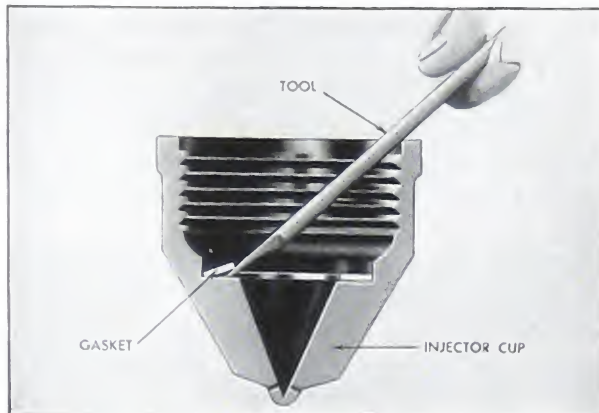

Fig. 6-23. Removing injector cup gasket
6. Always use a new cup gasket when assembling the cup to the injector body. A tool similar to the one shown in Fig. 6-23 will make it possible to remove the old gasket without damage to the body.
9. Place a new gasket in the cup and while holding the injector cup end down, carefully screw the injector cup on the body making sure there is no dirt or burrs to cause a binding condition between the locating section of the injector cup (Fig. 6-23) and the corresponding section of the injector body. The inside diameter of the cup and the outside diameter of the body at this locating section have a machined tolerance of .0002. Mating threads of the cup and body are a free fit to allow the cup and body to make perfect contact in this locating section.